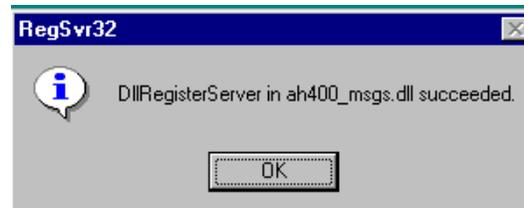

Figure 6-38—Click **OK**
- 2e) The message **DllRegisterServer in ah400\_msgs.dll succeeded** appears. See *Figure 6-38*.